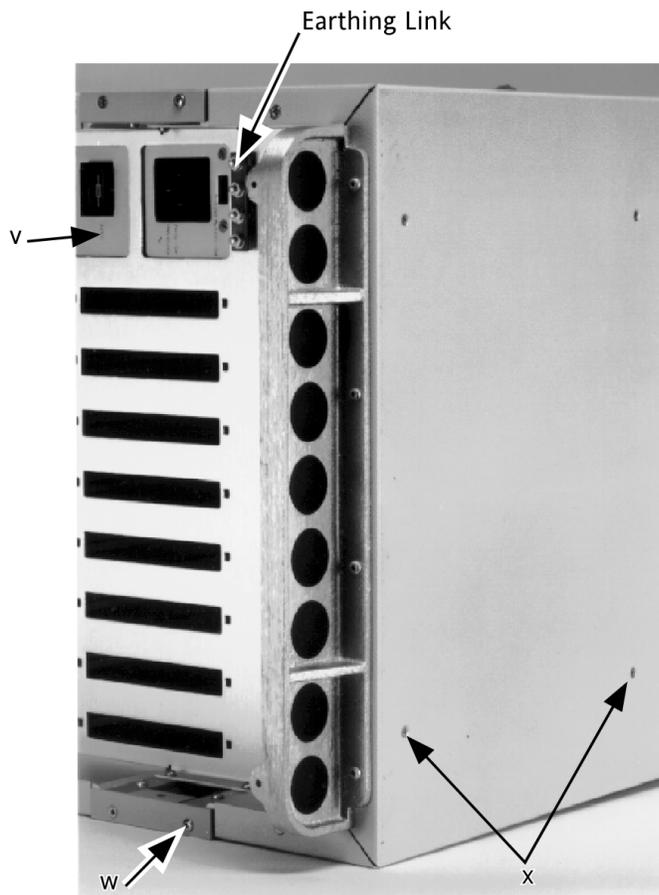

Figure 5.12.3j
Remove the writing system from the case, ensuring that the mother board ribbon cable remains connected to the control board. Connect one probe of the meter to the earthing link at the rear of the instrument (figure 5.12.3j).
- v Power supply unit casing (figure 5.12.3j)
- w Gland plate (figure 5.12.3j)
- x Case fixing screws (2 places) (figure 5.12.3j)